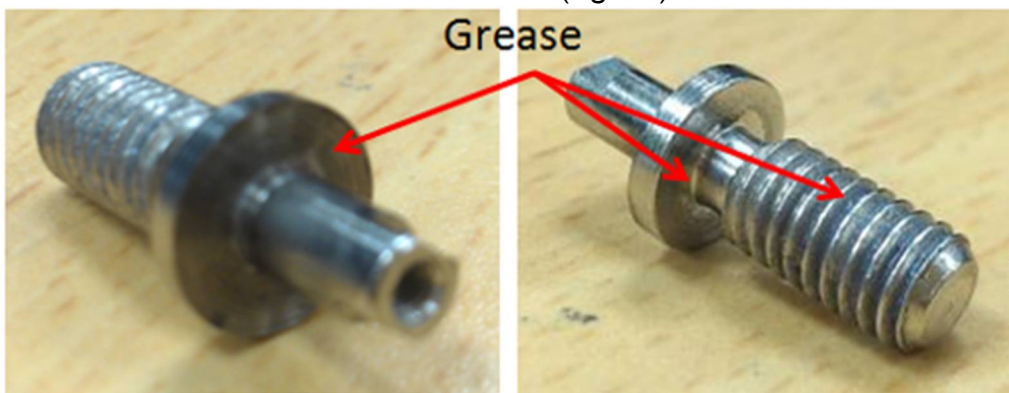

Fig.6-4
- D. Use Grease smear on “HOLDER ADAPTER” . (Fig. 6-4)